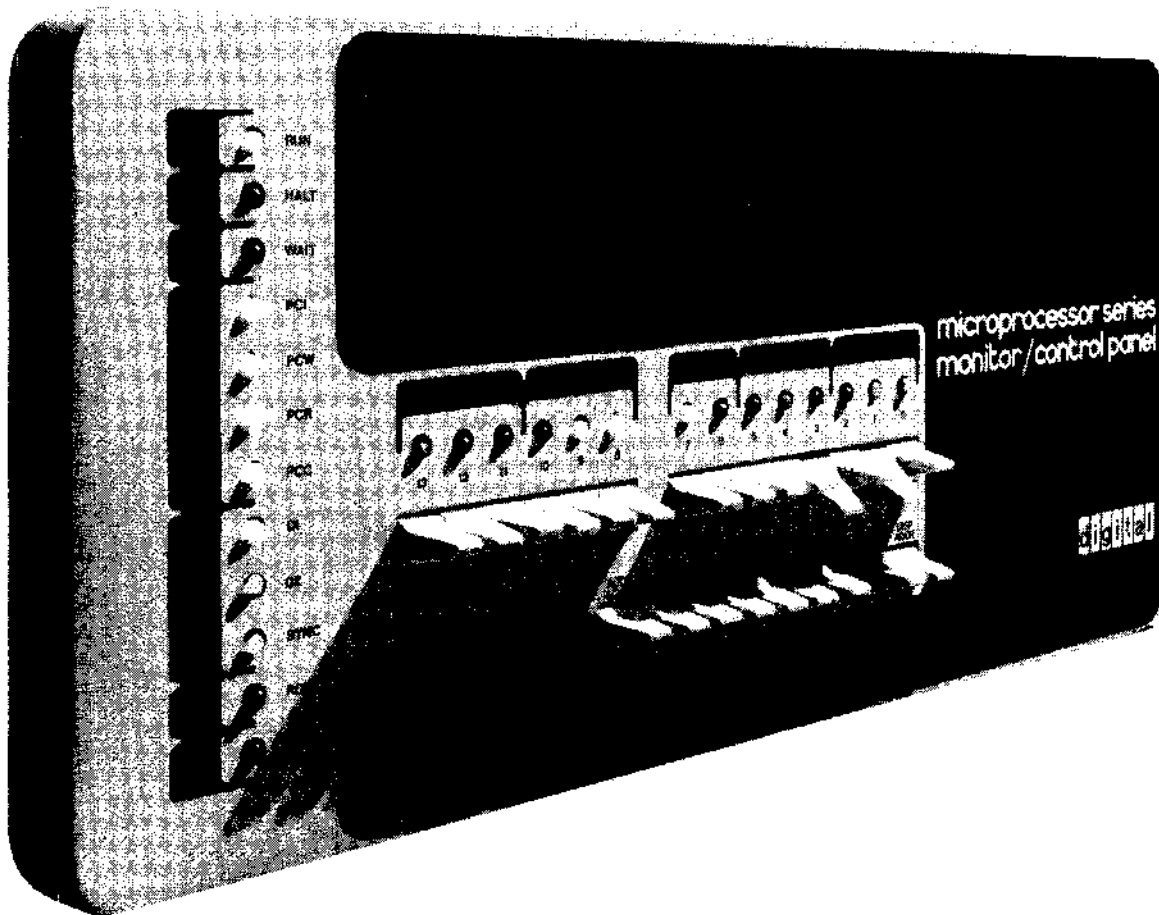

Figure 1-5 Monitor/Control Panel
*Monitor/Control Panel (Figure 1-5)*